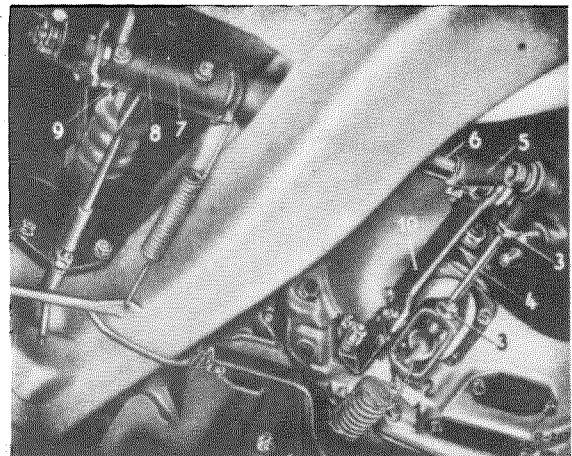

Fig. 29 — 5/2
1. After loosening the threaded bolt (1) unhook the return spring for the throw-out fork and the turnbuckle of the clutch actuating mechanism.
Remove the two hexagon screws connecting the swivel support (10) and the spring plate (Fig. 29 — 5/2).
2. Remove the rubber cap (10) from the swivel support (7) and remove the snap ring (9) (see Fig. 29 — 5/3).
Then remove the spacer ring (8) and the swivel support (7) together with ball (6) and needle bearing (5) from the shaft (1) (Fig. 29 — 5/3).
3. Remove the fitted washer (4) (1 mm thick) as well as the rear rubber sleeve (3) from the shaft.
4. If necessary loosen the clamp screw for the lever (2) and drive out the lever (2) from the splines of the clutch pedal shaft (1) by means of a plastic hammer (Fig. 29 — 5/3).